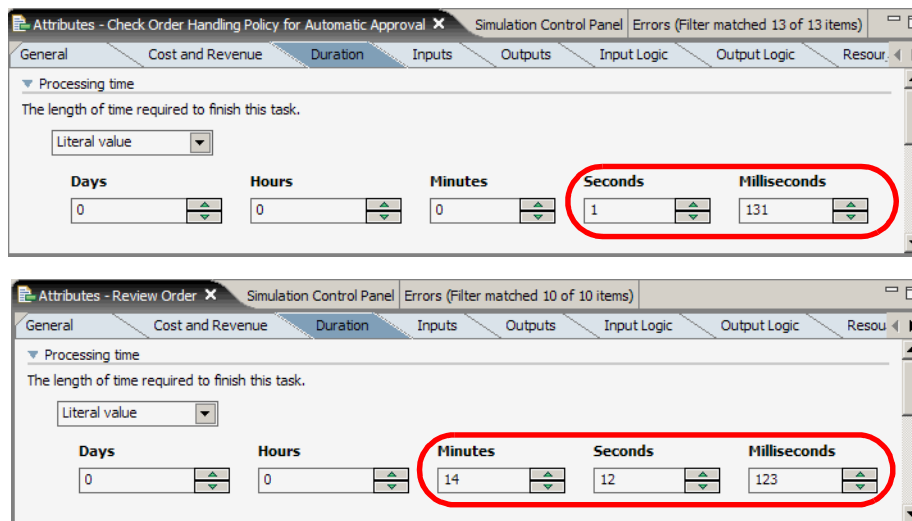

Figure 14-8 Activity duration measured by Monitor
- ▶ We can see the task duration in the Attributes view (Figure 14-8) after selecting a task, for example, Check Order Handling Policy for Automatic Approval (1.131s) or Review Order (14m 12.123s).